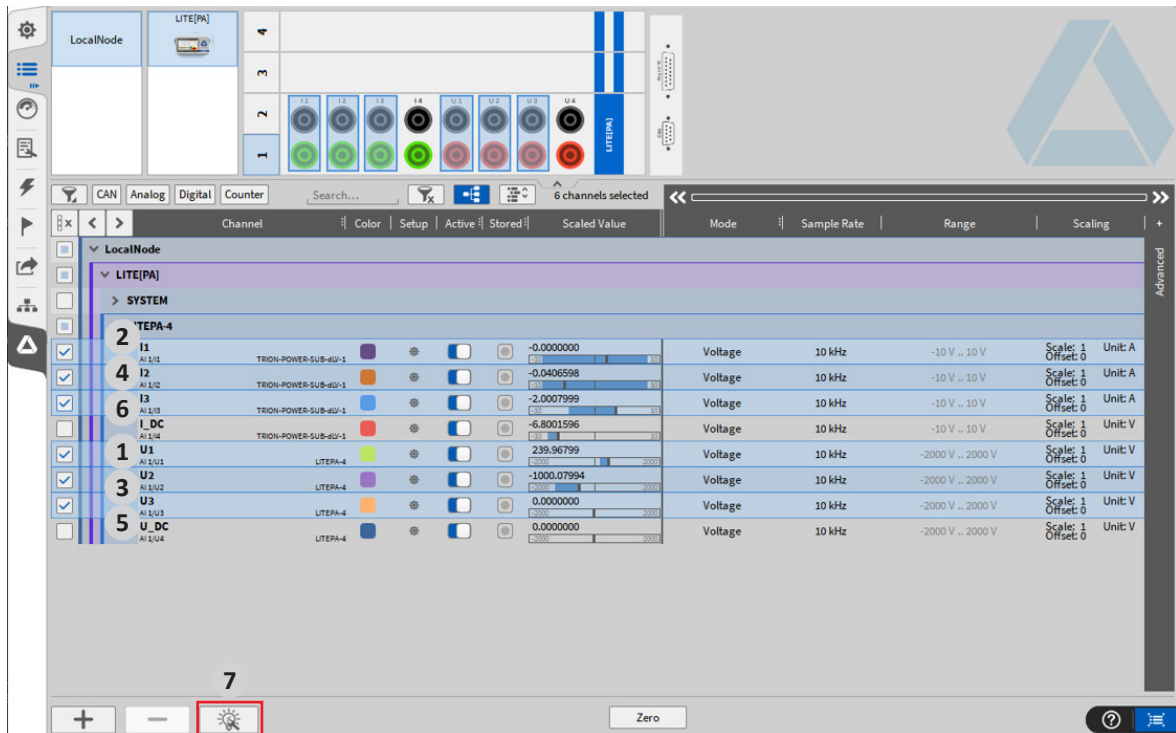

Fig. 20: Create a Power Group with channel pre-selection (1)
5. Select the channels for voltage and current, starting with the first voltage, see ① to ⑥ in Fig. 20, and click on the light bulb symbol at the bottom left, see ⑦ in Fig. 20.